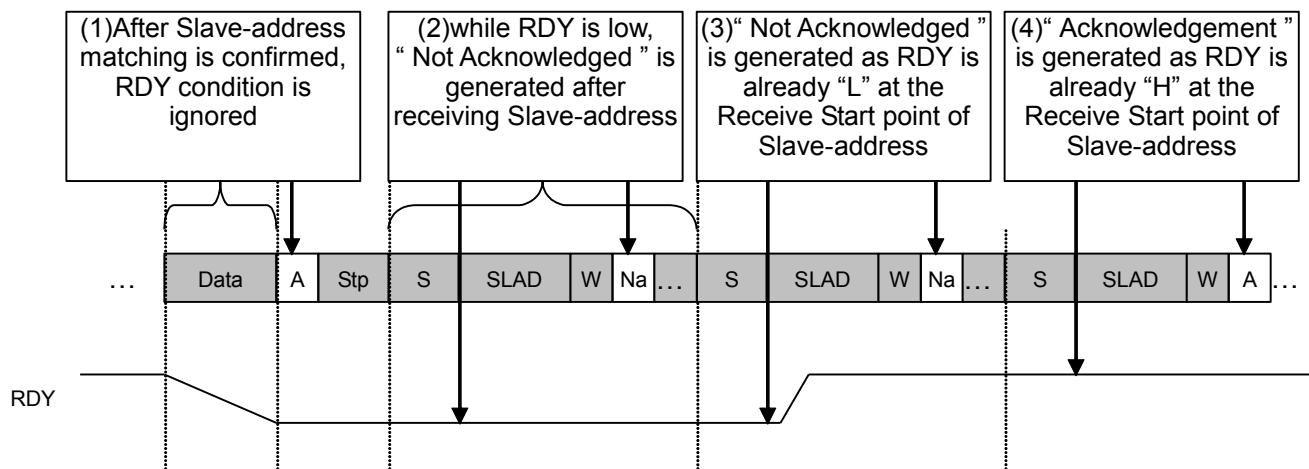

Figure 81. Internal RDY Signal Condition and Acknowledgement
The AK4961 cannot receive instructions while internal RDY signal (Data Write Ready) is at a low level. The maximum transition time of internal RDY signal from low level to high level is specified in Figure 81, but it is possible to confirm in a faster cycle that internal RDY signal has become high by checking the AK4961 internal condition, which is made by verifying the acknowledgement.
Refer to item (2) of “Figure 81 Internal RDY Signal Condition and Acknowledgement”.
Refer to item (1) in “Figure 81 Internal RDY Signal Condition and Acknowledgement”.